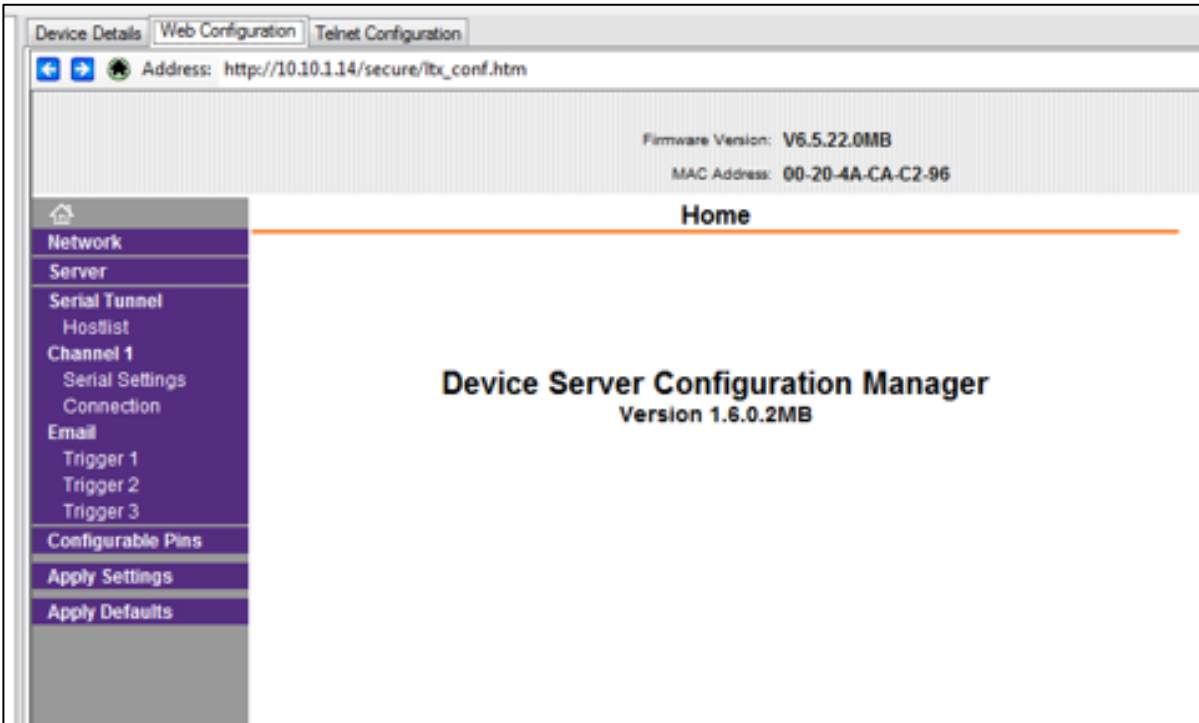

Figure 4-8 Device Server Configuration Manager
3. The Device Server Configuration Manager will open as shown in Figure 4-8